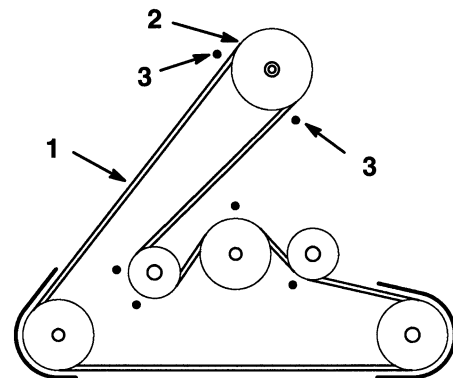

Figure 19
14. Remove the mower belt from the engine pulley (Fig. 19). If you are careful, you can flex the belt guide(s) just far enough away from the pulley to remove the belt. If it is too difficult to remove the belt, loosen the bolts and nuts securing the belt guides. Tighten bolts.